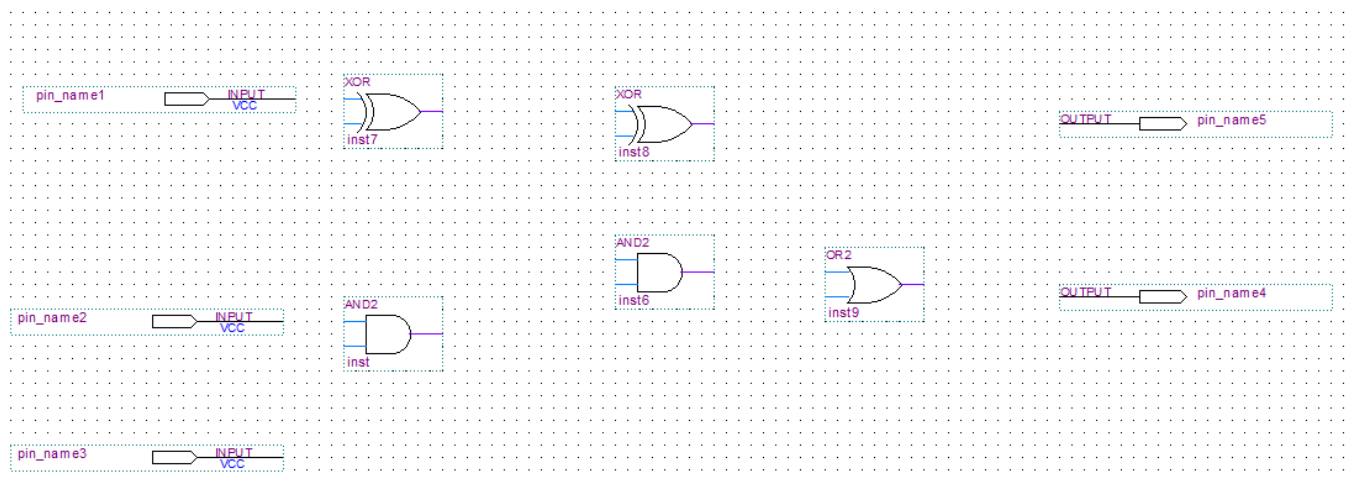

Figure 4
- 9) Now that the gates are placed, you will need to place three (3) **input** pins to the left of your schematic and two (2) **output** pins to the right. Input/output pins are found under altera_lite→primitives→pin. When you have completed this step, your schematic should look like Figure 4.